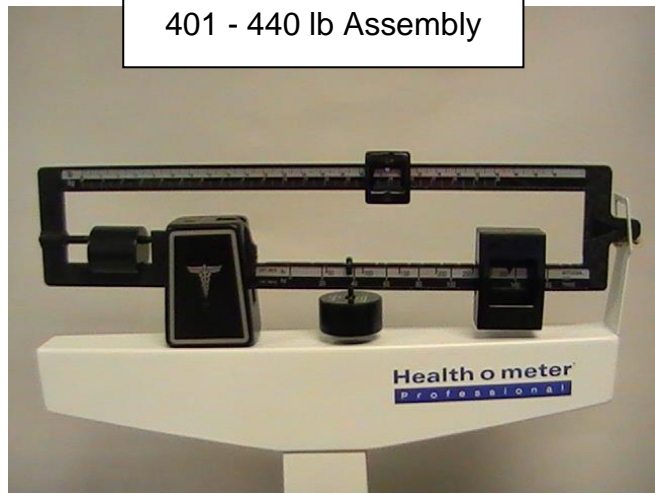

Figure 17
1. When a patient weighs between 401 - 440 lb, place the lower poise weight at 300 lb. (See Figure 17 on page 19)